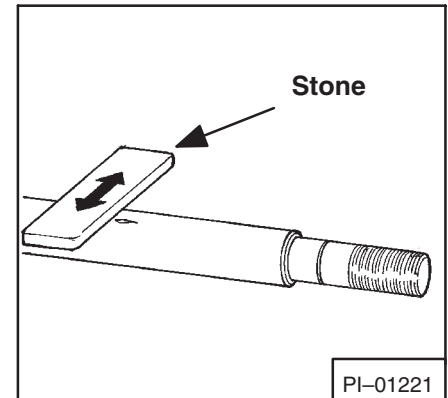

Fig. 2-20 Removing Marks
1. Damage marks on the cylinder rod. Inspect the complete rod. Carefully remove small marks with abrasive stone (Fig. 2-20).